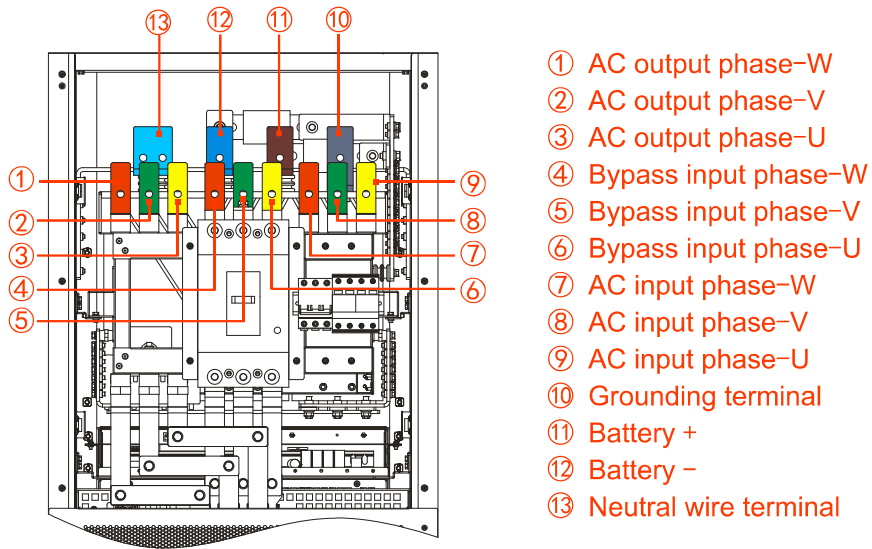

Figure3-23 Wiring terminals diagram of 160kVA, 200kVA (back view)
Step 2 Lead the input cables, output cables and battery cables go through the top wiring hole, and connect the cables according to Figure3-23 respectively, then fasten the bolts.